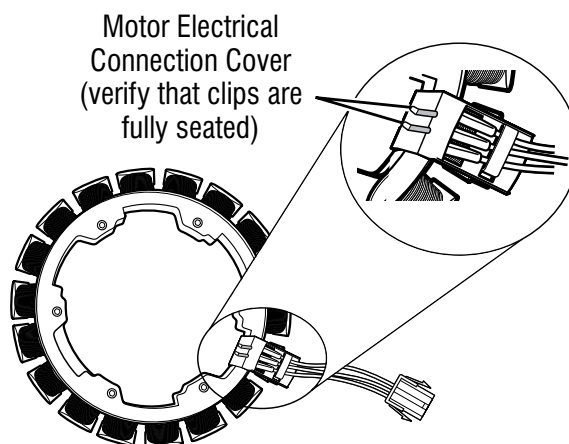

Figure 1 - Removing Shifter Coil and Checking Motor Electrical Connection
- Tilt washer back to access the bottom of the washer and the drive motor area (see Figure 1, page 3-7).
- Visually check that motor electrical connection cover is fully seated (see Figure 1 below).